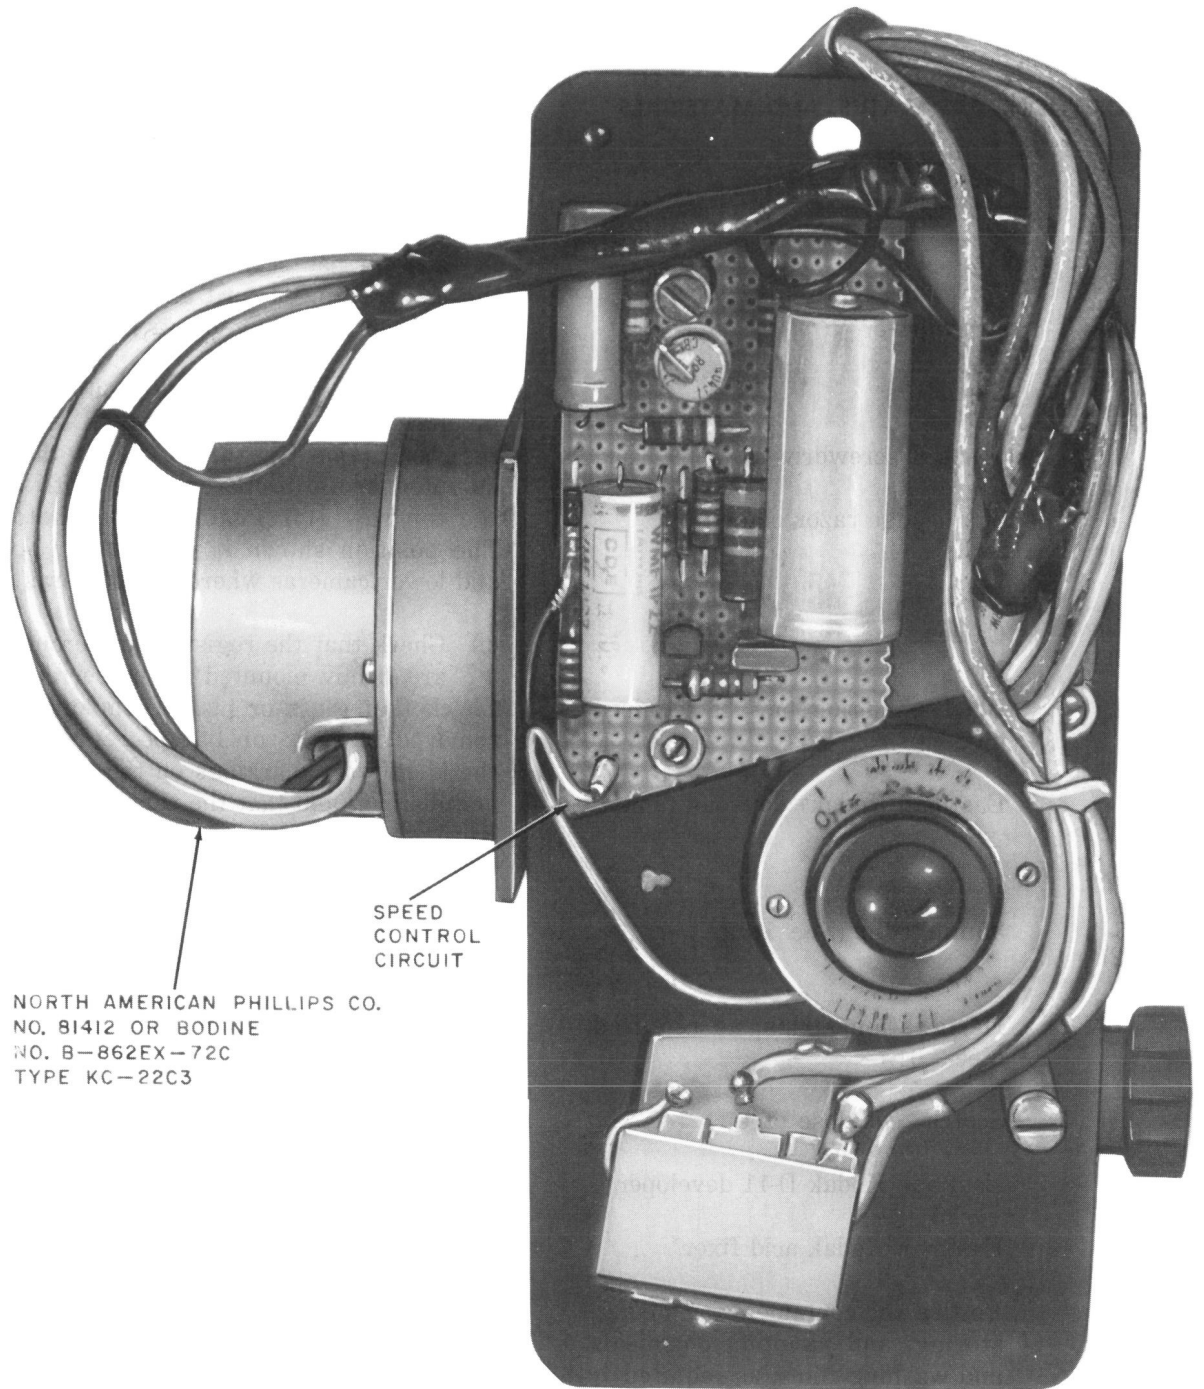

Fig. 3—KS-16007 Camera With KS-19438 L3 Shutter
| Loading the Camera | 7 | ● Add new Fig. 3 and change Fig. 3 and 4 to Fig. 4 and 5 | |
1.12 ♦The KS-19438 L3 shutter (Fig. 3) consists of the following elements:
1.13 The KS-19438 L3 electronic shutter speed control circuit, controlling the DC shutter solenoid, operates from a 120 Vac input pulse. The AC input pulse is converted to a DC supply voltage by a regulated half-wave rectifier circuit. The DC supply voltage energizes the shutter solenoid through a transistorized RC timing and drive circuit. This circuit energizes the shutter solenoid for the desired shutter speed duration. (See Fig. 3.)♦